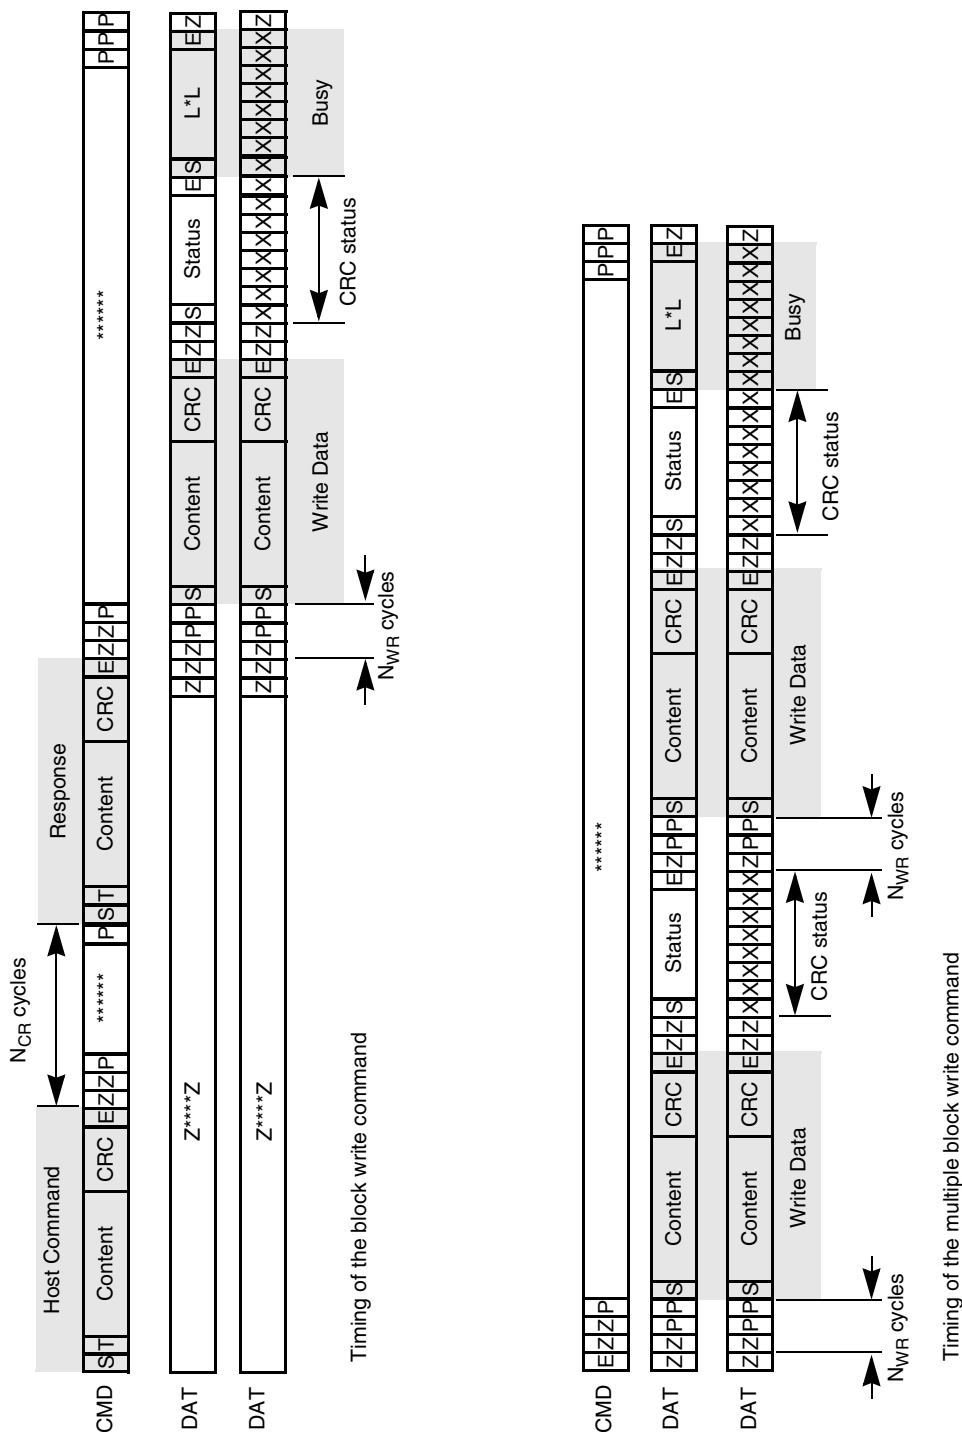

Figure 29. Timing Diagrams at Data Write
Figure 29 on page 41 shows the basic write operation timing. As with the read operation, after the card response, the data transfer starts after  $N_{WR}$  cycles. The data is suffixed with CRC check bits to allow the card to check for transmission errors. The card sends back the CRC check result as a CC status token on the data line. If there was a transmission error, the card sends a negative CRC status (101); otherwise, a positive CRC status (010) is returned. The card expects a continuous flow of data blocks if it is configured to multiple block mode, with the flow terminated by a stop transmission command.